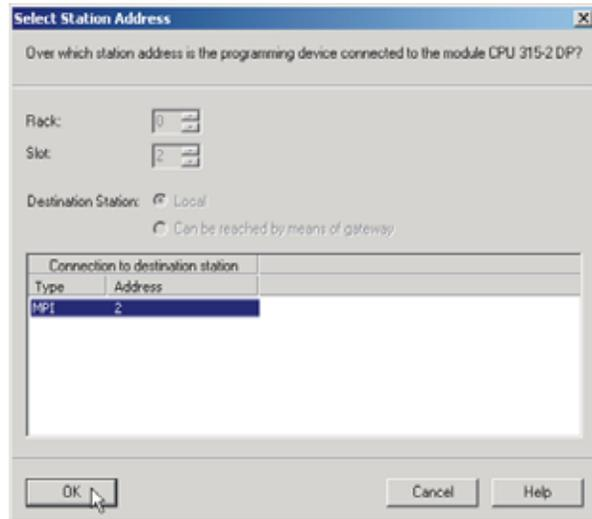

FIG. 167 SELECT STATION ADDRESS DIALOG BOX
Step 10. Click on OK. The Select Station Address Dialog box appears. (See Fig. 167)